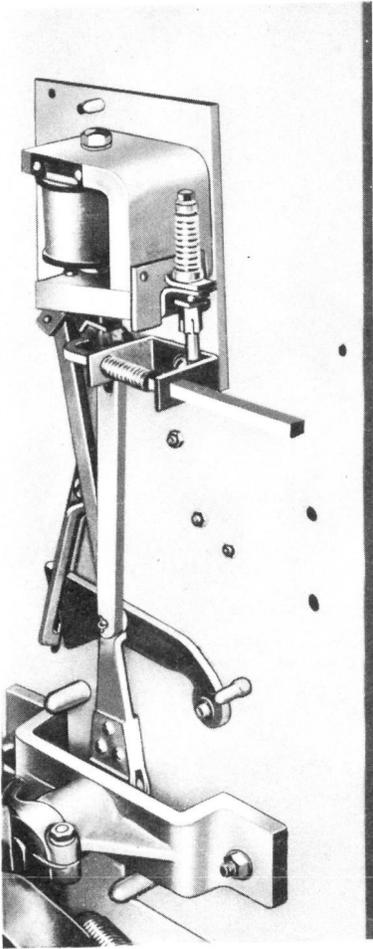

Fig. 13 - Contactor-type Undervoltage Release - With Time-delay Feature on Form G150 Starter
6. To add new Fig. 13 (form G150 starter) for the contactor-type undervoltage release with time-delay feature.